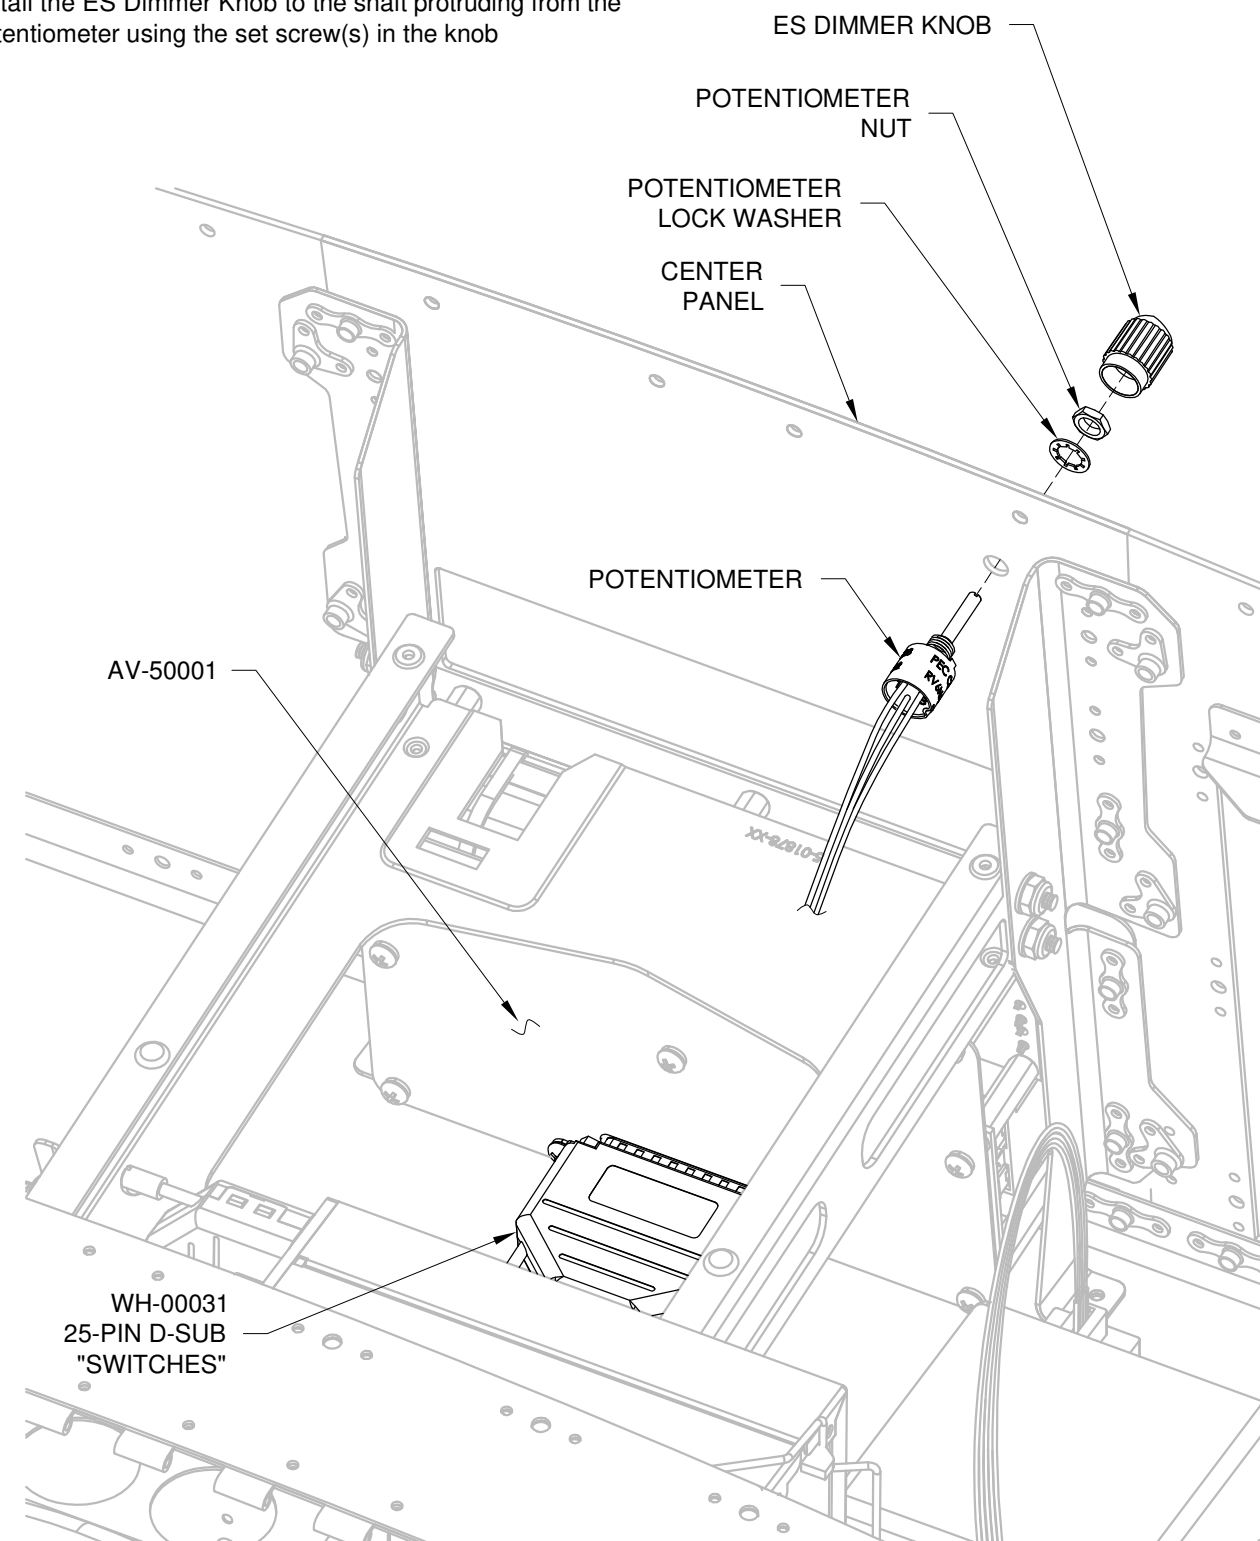

FIGURE 3: INSTALLING THE POTENTIOMETER
Step 1: Remove the backshell from the WH-00031 Switch Module Harness 25-pin D-Sub connector labeled "SWITCHES" with a yellow heat-shrink band as shown in Figure 3.
Re-install the backshell, then attach the connector to the back of the AV-50001 Power & Switch Module. See Figure 3.
Step 2: Route the WH-00111 Dimmer Potentiometer Harness from the back of the AV-50001 Power & Switch Module to the location on the center panel as shown in Figure 3. If no hole exists for the dimmer in the center panel complete Step 3, otherwise skip to Step 4.
Step 5: Install the potentiometer on the WH-00031 Switch Module Harness to the panel as shown in Figure 3. Do not fully tighten the nut at this time as the knob will be removed to add a label in Section 51A.